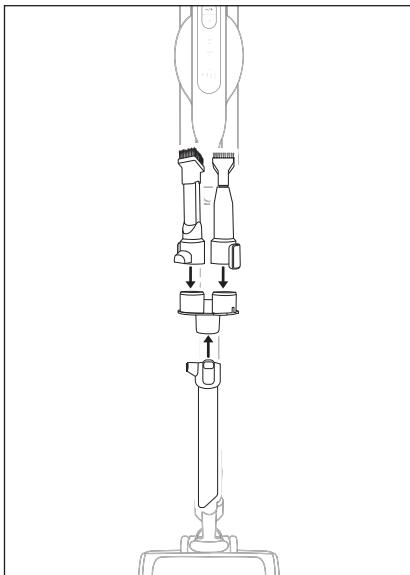

Fig. 20
- Allow the mop pads ⑩ to dry completely before using them again.
- ◆ Remove accessories from the appliance and place them on the accessories holder ⑯ for storage (see Fig. 20).